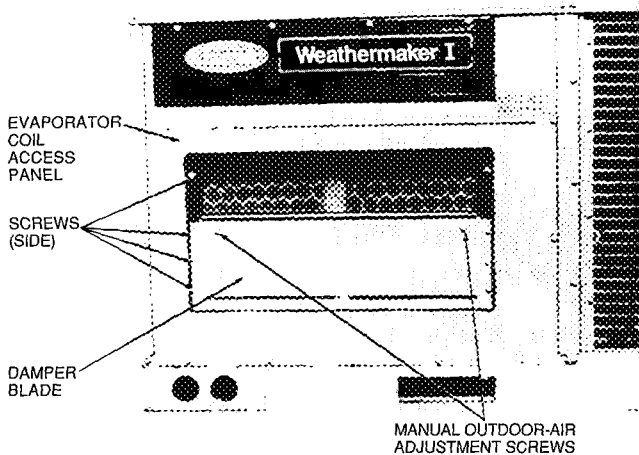
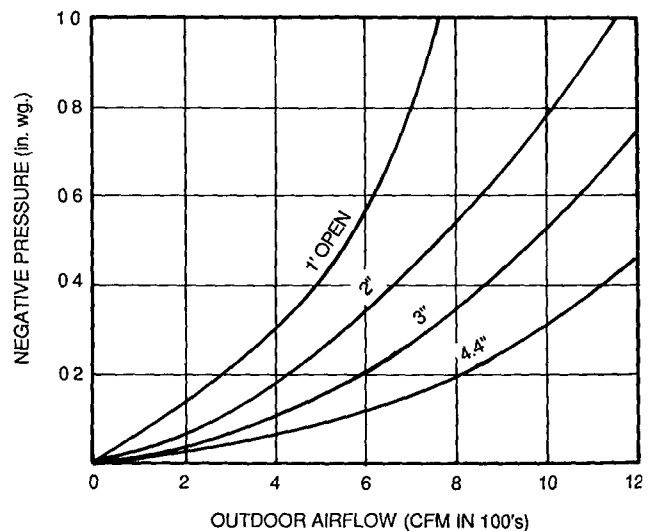
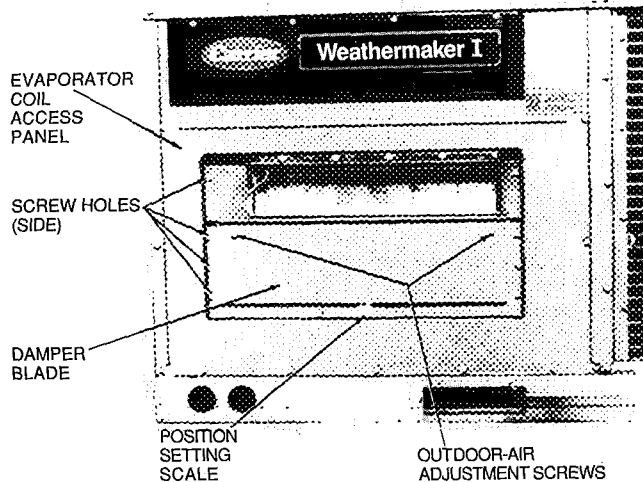

Fig. 12 – Damper Panel with Manual Outdoor-Air Damper Installed
Fig. 15 – Position Setting
Fig. 16 — Damper Panel with Two-Position Damper Installed
2. Remove and save evaporator coil access panel and screws. See Fig. 12.
8. Adjust minimum position setting of the damper blade by adjusting the manual outdoor air adjustment screws on the front of the damper blade. See Fig. 12. Slide blade vertically until it is in the appropriate position determined by Fig. 15. Tighten screws.
2. Remove and save evaporator coil access panel and screws. See Fig. 16.
9. Determine two-position damper setting by using Fig. 15. Set the damper panel position using the air adjustment screws. See Fig. 16. Tighten screws.